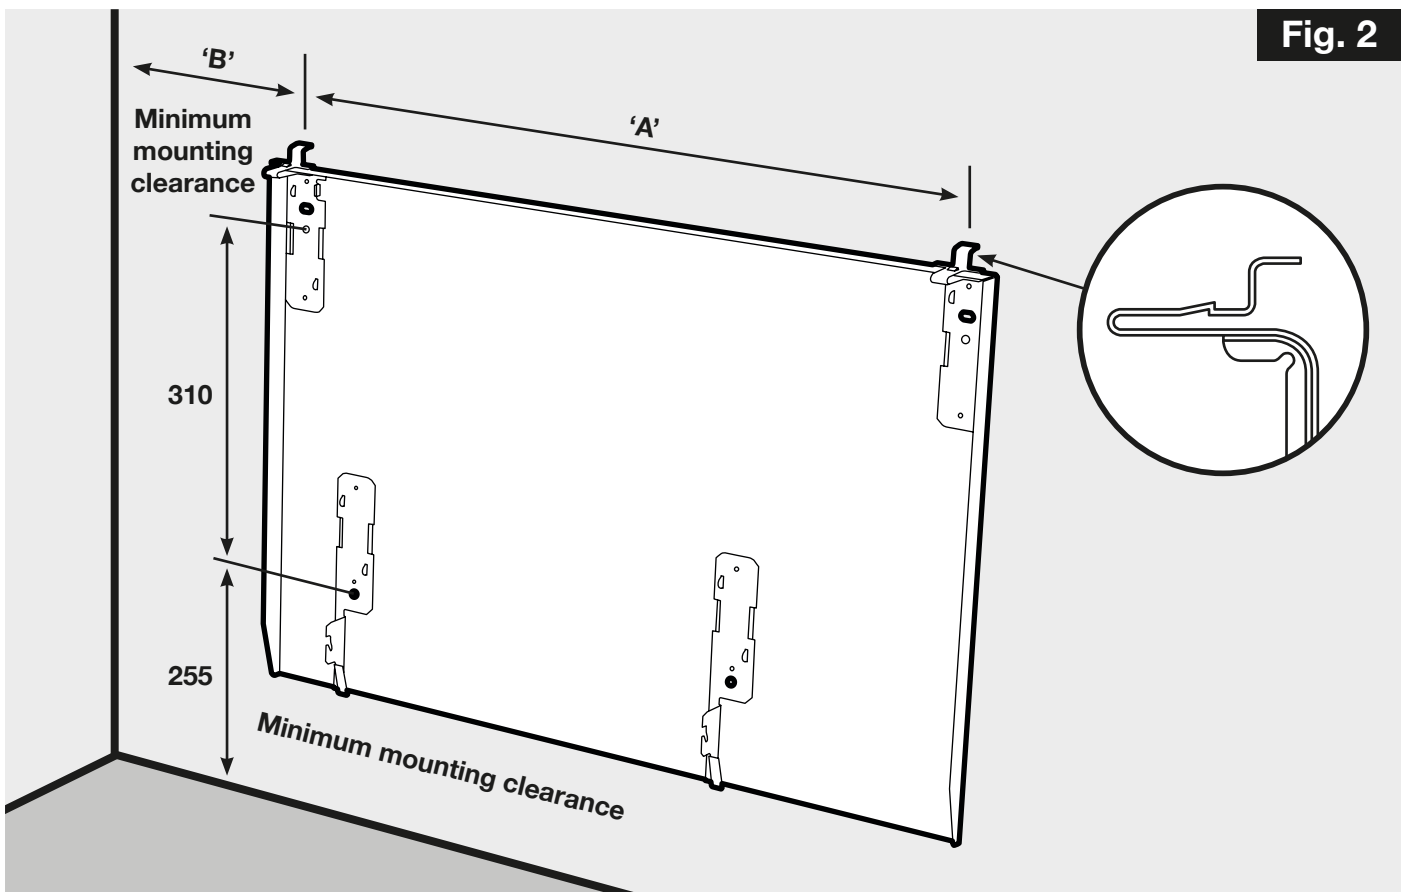

Fig. 2
IMPORTANT - The wall bracket supplied with the heater must be used and the heater must be installed in the correct orientation. The fixings should be used to secure the bracket to the particular wall on which the heater will be installed. The heater should be positioned observing the minimum clearances stated around the heater - see **Fig. 2**, **Fig. 3** and **Fig. 4**.
1. Remove wall mounting bracket from the back of the heater by depressing the spring latch at the side of each bracket - see **Fig.2**.